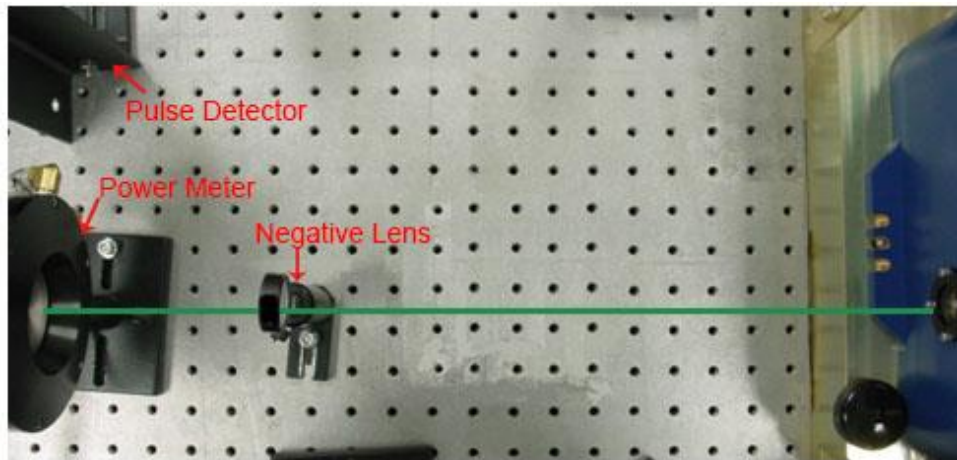

Figure 4-2 Basic Setup for the Laser Power Test
A power meter, with the ability to handle the maximum power of the laser, should be installed approximately 0.5 meter away from the laser in the direction of the laser output beam. To protect the power meter, a negative lens ( $f=-100$  mm) with an anti-reflective (AR) coating at output wavelength should be installed in front of the power meter as shown in Figure 4-2 below. If a negative lens is not available, only a small portion of the laser power should be measured by a beam sample, so that the power density is below the damage threshold of the power meter. The power should be calibrated in this way. A pulse detector should be positioned as shown in Figure 4-2 to verify the pulse characteristics of the laser.